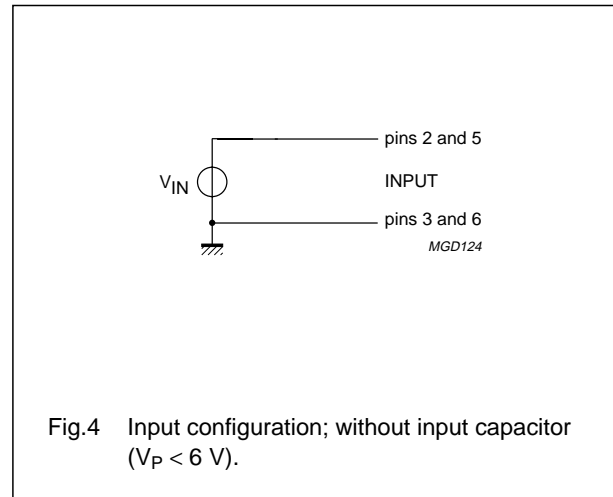
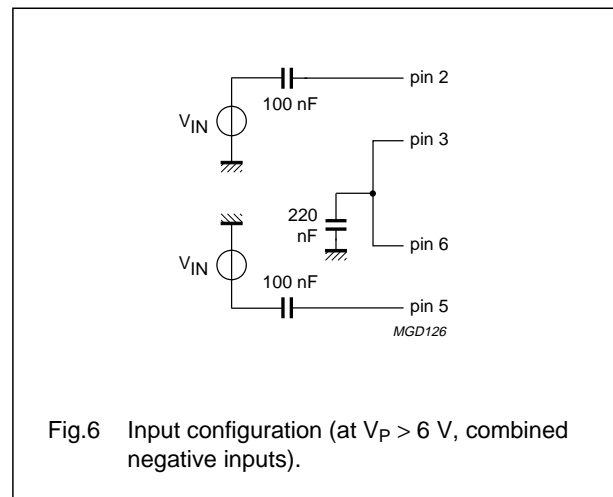

Fig.4 Input configuration; without input capacitor ($V_P < 6 \text{ V}$).
Fig.6 Input configuration (at $V_P > 6 \text{ V}$, combined negative inputs).
- The graphs for the single-ended application have been measured with the application illustrated in Fig.9; input configuration for input mode low (Fig.4) and input configuration for input mode high (Fig.6).
- The graphs for the BTL application 'input mode low' have been measured with the application circuit illustrated in Fig.11 and the input configuration illustrated in Fig.4.
- The graphs for the line-driver application have been measured with the application circuit illustrated in Fig.13 and the input configuration illustrated in Fig.6; input mode high.